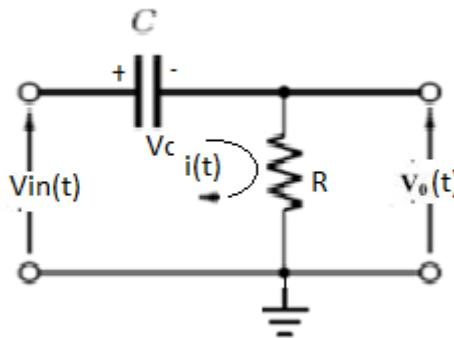

Fig 5.1 RC- Differentiator
The Fig 5.1 shows the RC differentiator circuit. The circuit acts as a differentiator when time constant (RC) is very small. Under this case, voltage drop across R is negligible compared to drop across C. Thus  $V_c = V_{in}$ .